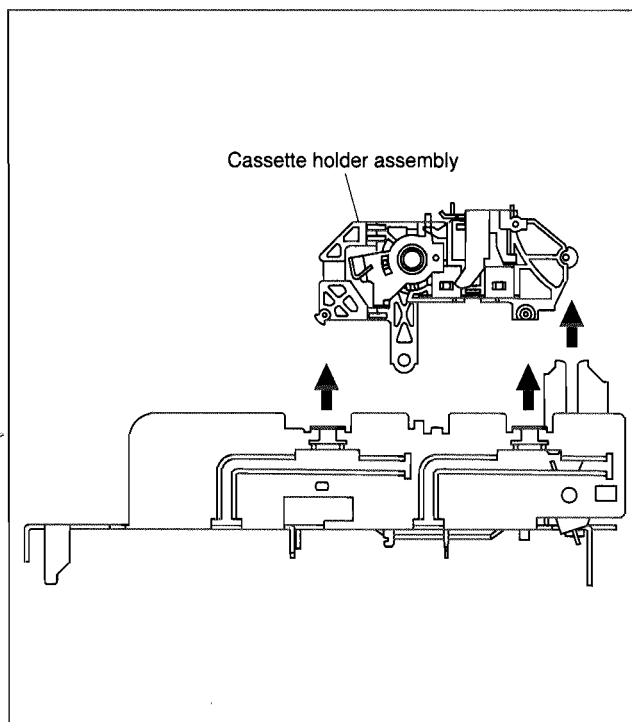
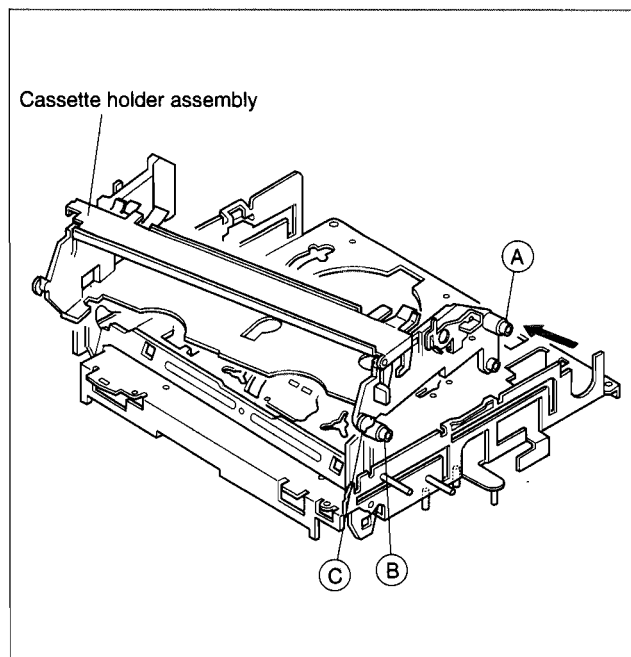

Fig. 2-2-5
Fig. 2-2-6
- (5) While holding the left side of the cassette holder, lift the cassette holder assembly so that the three legs on the left side are all released. Then pull the legs A and B on the right side out of the rail and also pull up the leg C. (See Fig.2-2-5 and Fig.2-2-6.)